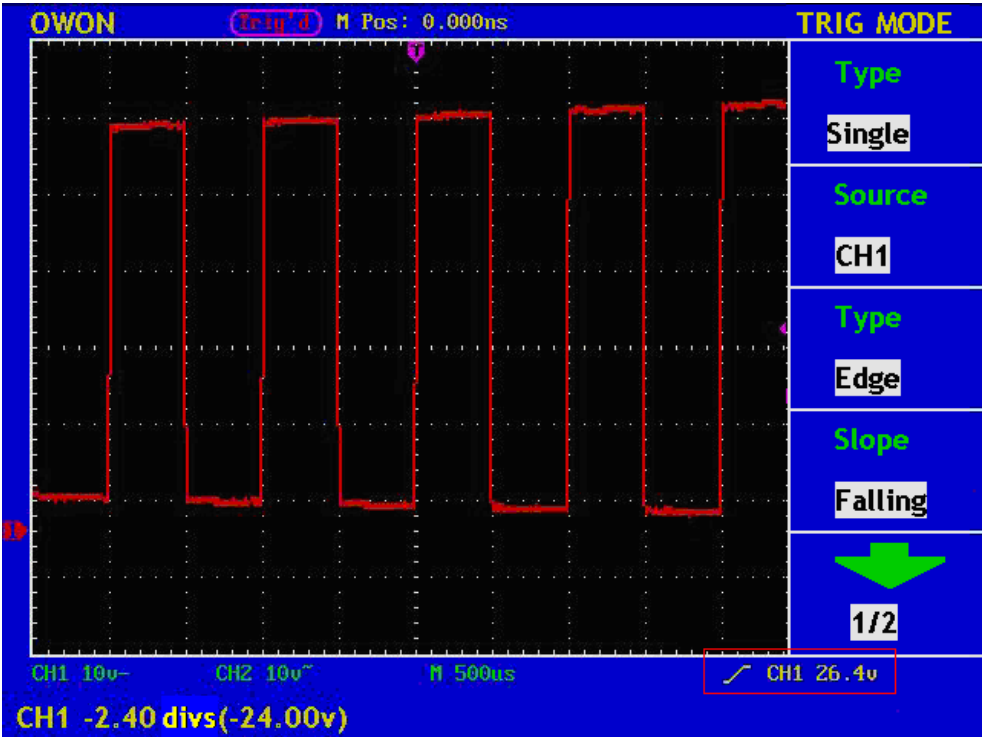

Fig.36 Wave Form Triggered on the Rising Edge
- 7、Press the **F3** menu selection button to choose **DC** for Coupling. The display in the screen is as Fig.36.